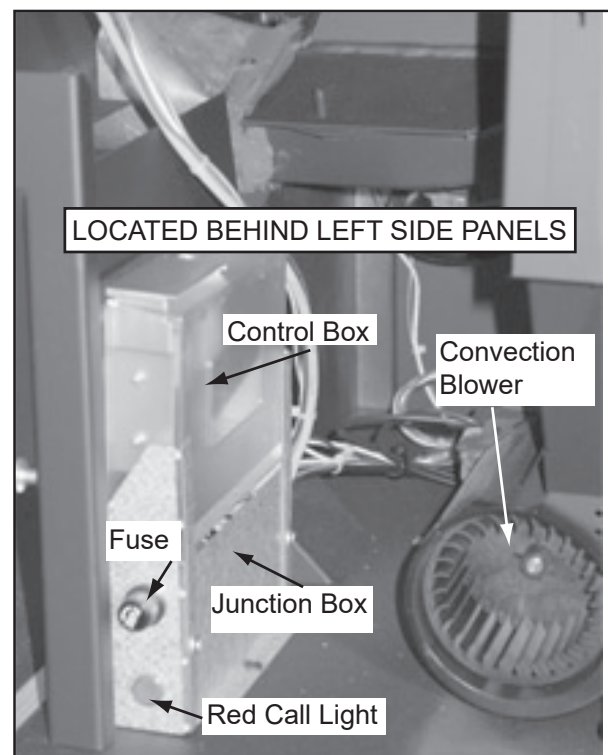

Figure 11.3
5. Look through the hole in the left lower side panel and you will see the red call light on the control box will be on (**Figure 11.3**). This indicates the thermostat is calling for heat. On the CAB50 the light can be viewed from behind through the hole near the bottom left side of the rear panel.
NOTE: 2 AA batteries are included with the thermostat and must be installed before the appliance can be operated (see Figure 11.3 on page 11).